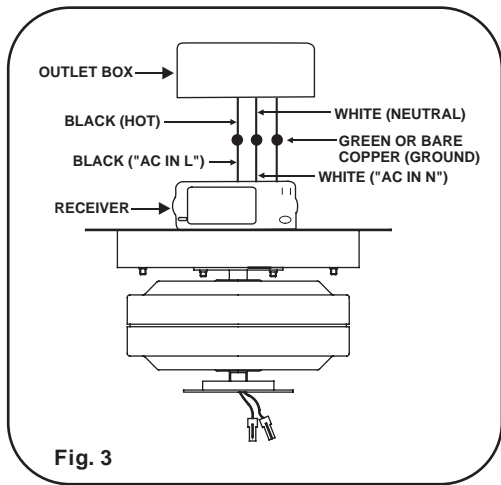

Fig. 3
**Step 1** Connect the fan supply (black) wire to the black household supply wire as shown in Figure 3 & 4.